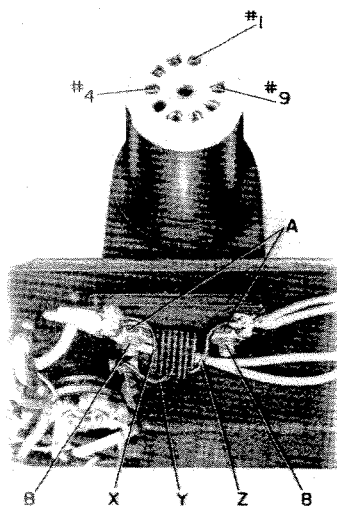

Figure 4-10. Interior view showing mounting of the swivel-support assembly, pivot blocks, and connections.
To replace the swivel-support assembly (see Figure 4-10):
- b. Loosen (do not remove) two nuts (A, Figure 4-10) and slide the two pivot blocks apart. (The heads of the two screws (B) clamp the pivot blocks in position when nuts (A) are tightened.)
- f. Insert leads (X, Y, Z) through the slot between screws (B), and hold the swivel-support assembly in position between the two pivot blocks.